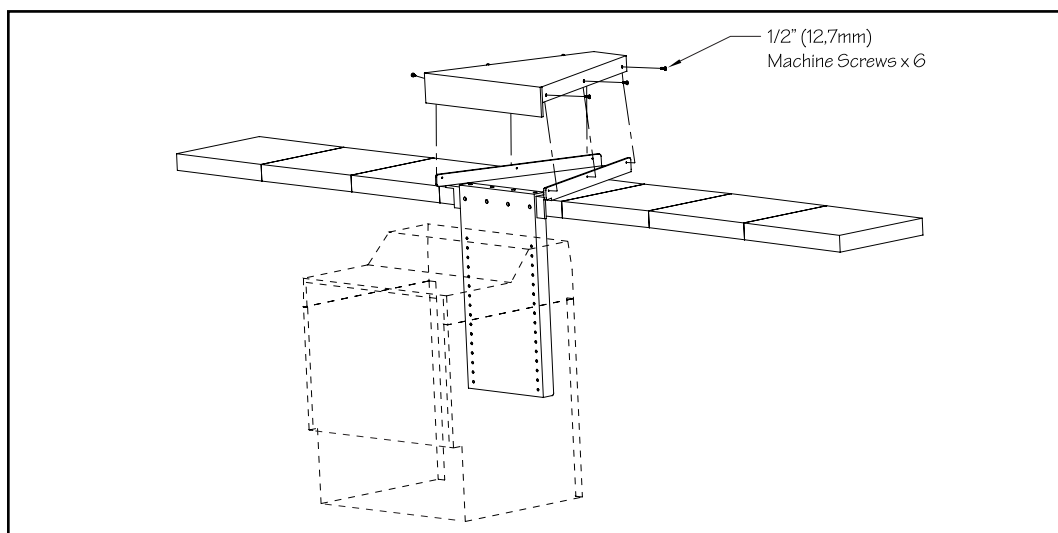

Fig. 9.4
- 9.7 Place the hose cover onto the hose tray and use the provided 1/2" (12,7mm) stainless steel screws to attach the cover to the tray (Fig 9.4).